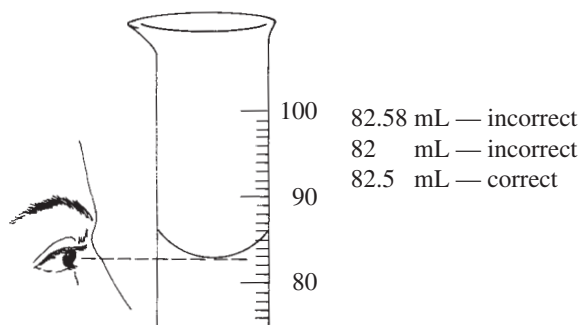

Figure 1.5
- The graduated cylinder is a piece of glassware used for measuring the volume of a liquid. Graduated cylinders come in various sizes with different degrees of accuracy. A convenient size for this experiment is the 100-mL graduated cylinder. Note that this cylinder is marked in units of 1 mL; major divisions are of 10 mL and subdivisions are of 1 mL. Estimates can be made to the nearest 0.1 mL. When a liquid is in the graduated cylinder, you will see that the level in the cylinder is curved with the lowest point at the center. This is the *meniscus*, or the dividing line between liquid and air. When reading the meniscus for the volume, be sure to read the *lowest* point on the curve and not the upper edge. To avoid errors in reading the meniscus, the eye's line of sight must be perpendicular to the scale (Figure 1.5). In steps 3 and 4, use the graduated cylinder to see how well the marks on an Erlenmeyer flask and a beaker measure the indicated volume.